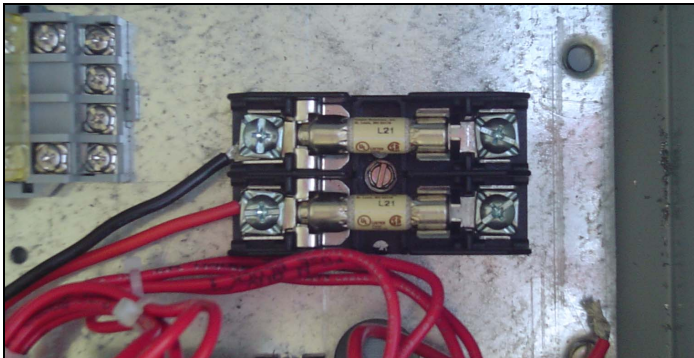

Figure 57. TVSS Red and Black Wires Connected to the TVSS Fuse Block.
Step 10: Connect the red and black TVSS wires to the TVSS fuse block, using a blade screwdriver (see Figure 57).